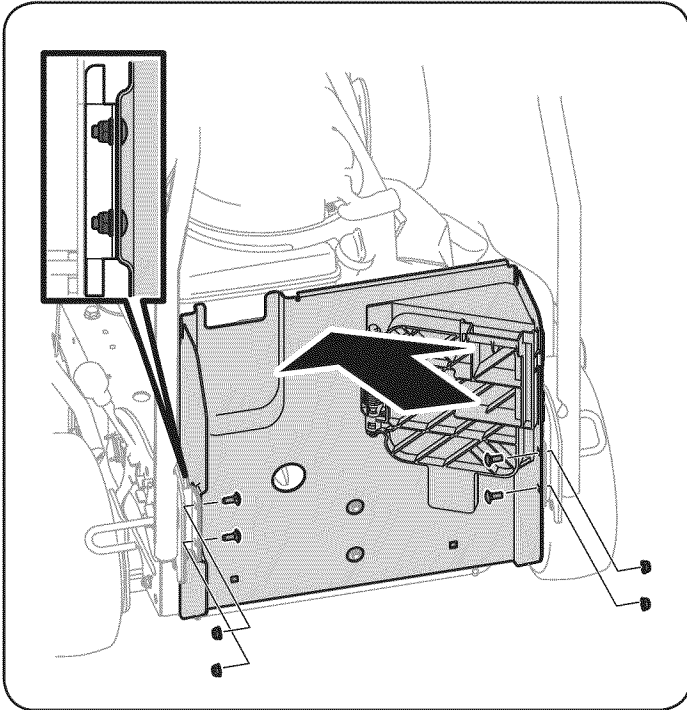

Figure 4
4. Thread two carriage bolts through the holes on the left side of the rear support bracket and secure them with two flange lock nuts. See inset in Figure 4. Repeat this process on the right side. See Figure 4.